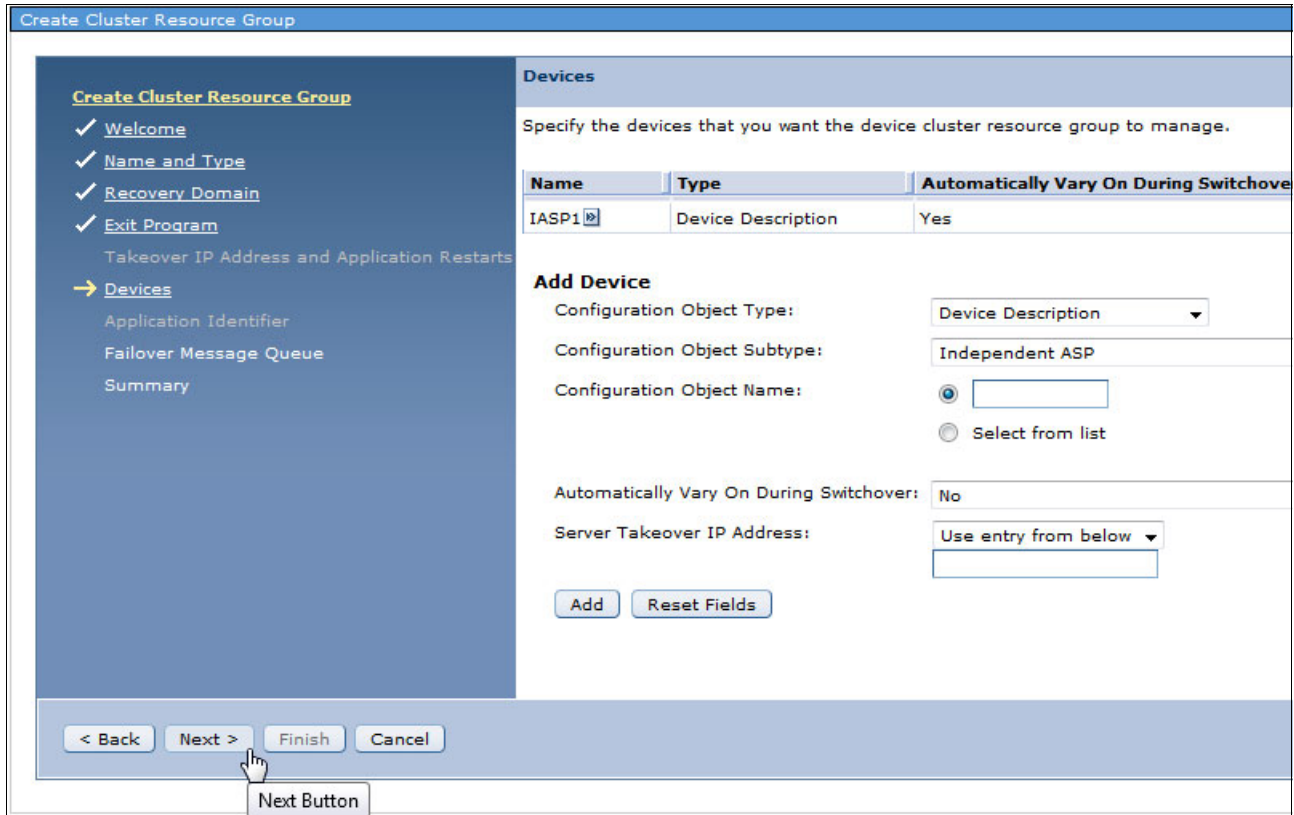

Figure 4-29 Create Cluster Resource Group, device added
26. You can add multiple devices into one cluster resource group. Click **Next** when the devices you need are part of the cluster resource group, as shown in Figure 4-29.